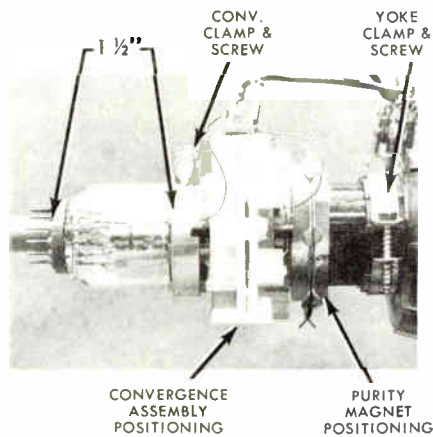

Fig. 2 Location of Convergence Assembly and Purity Magnet.
1. Check for correct positioning of the convergence assembly and purity ring on the picture tube neck as shown in Figure 2.